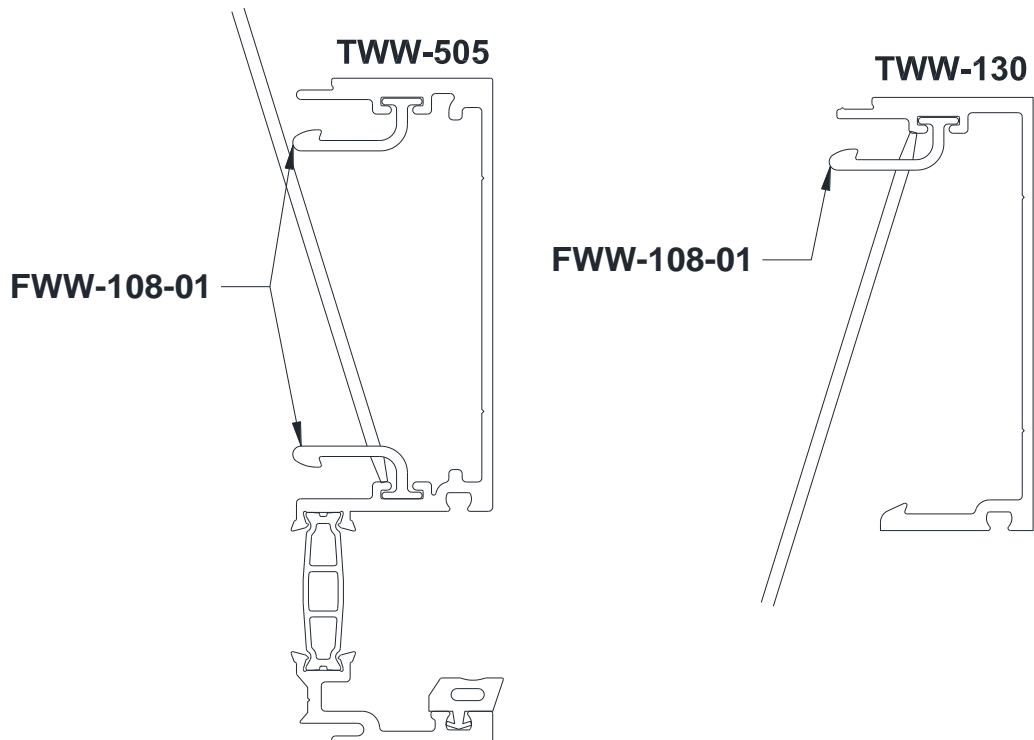

Figure 29: Anti-Buckling Clip Installation into Female-Half of Split Mullions
- 12.1.4 Insert **FWW-108-01** Anti-buckling Clips, locating as required by approved shop drawings or engineering review, into female half of split mullion and stake in place on both ends of each clip as shown in *Figure 29*. Verify clips are parallel with front and rear faces of mullion.